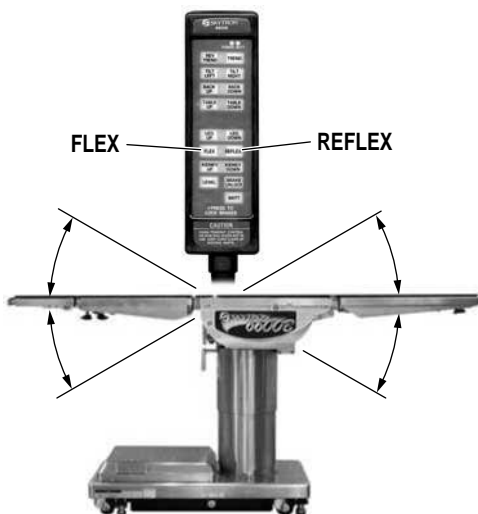

Figure 3-9. Flex/Reflex Positioning
g. Flex Positioning. To place the table top in a flex position from horizontal, press the FLEX button (figure 3-9). To return the table top to a horizontal position or into a reflex position, press the RETURN or REFLEX button.